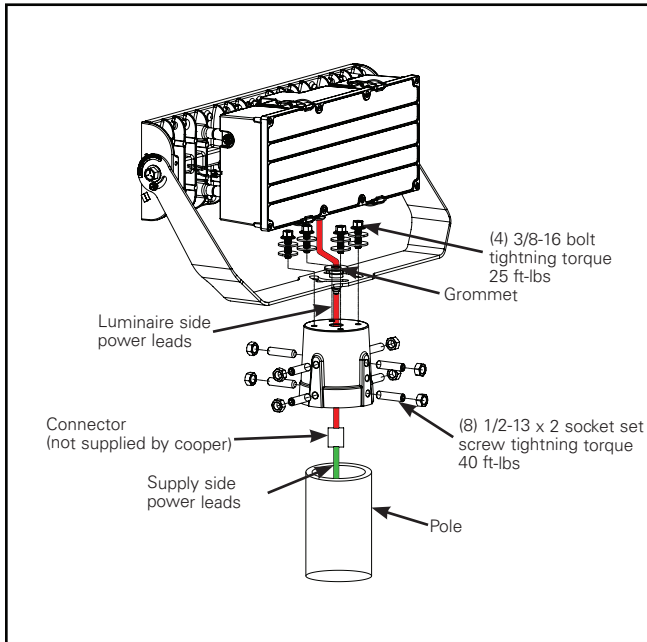

Figure 17.
TYS (Figure 17,18)
2. Peel off paper backing from grommet flange to expose the adhesive and pull the grommet through the yoke bracket such that flange is on top of the bracket and gasket body resides below where slipfitter will be installed (Fig 17).
3. Using the grommet and slipfitter center hole as guides, mount the slipfitter to the bottom side of yoke with 4 3/8-16 bolts, (8) flat washers provided. Tighten to 25 ft lbs (Fig 17)